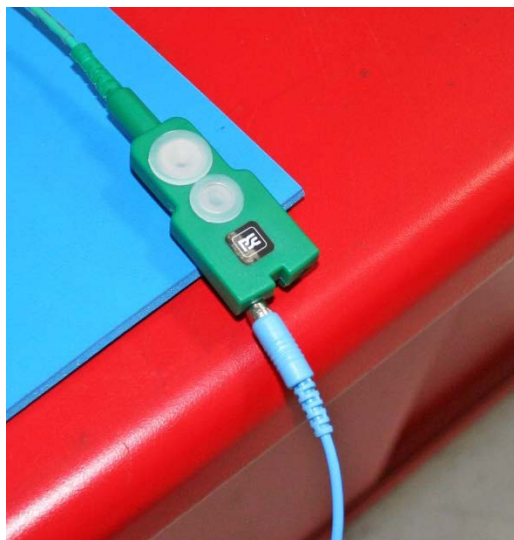

Figure 4
4. Connect the banana plug on the wrist strap to the ground cord (Figure. 4).